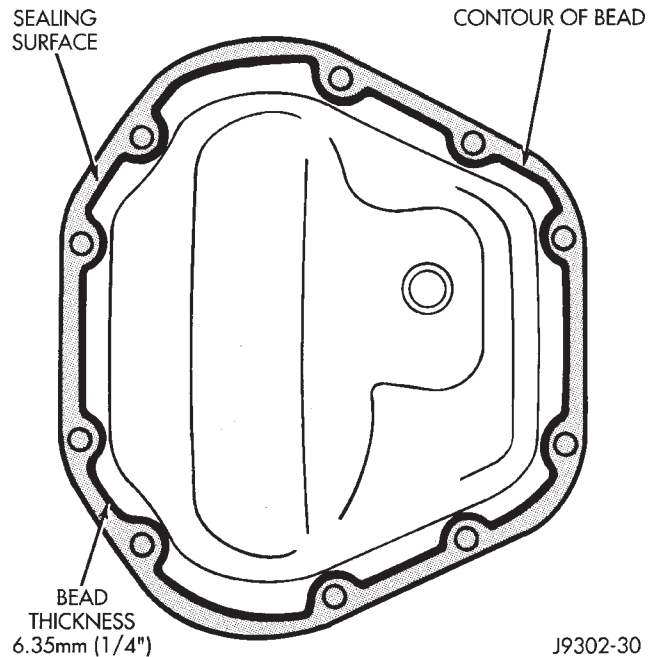

Fig. 53 Typical Housing Cover With Sealant
- (1) Scrape the residual sealant from the housing and cover mating surfaces. Clean the mating surfaces with mineral spirits. Apply a bead of Mopar® Silicone Rubber Sealant, or equivalent, on the housing cover (Fig. 53).